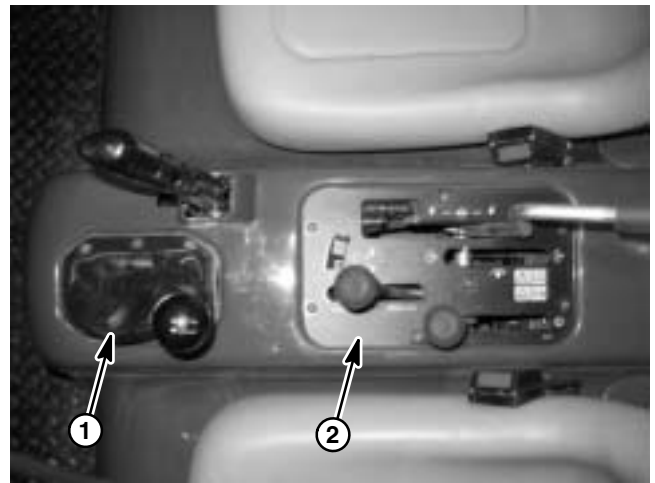

Figure 5
1. Remove knobs from control levers, then remove center console shift boot and control plate (Fig. 5).